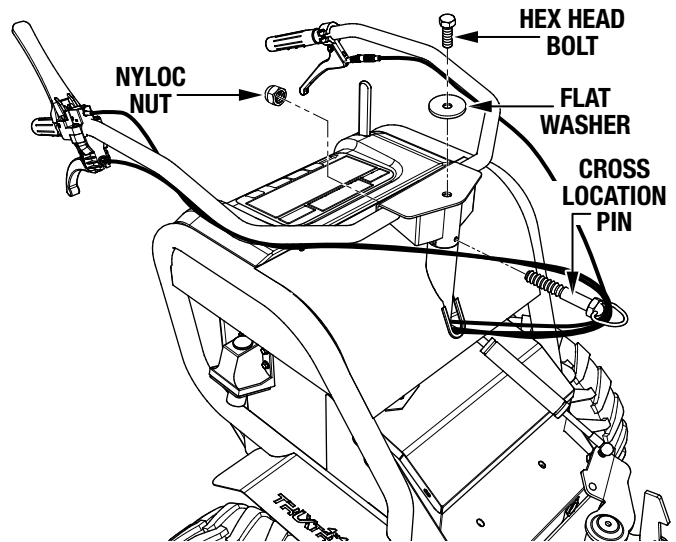

Figure 3. Handlebar Installation
2. Secure the handlebar to the steering pivot shaft with the cross location pin and nyloc nut (Figure 3).
3. Install the hex head bolt and flat washer onto the top of the handlebar (Figure 3) and tighten securely.